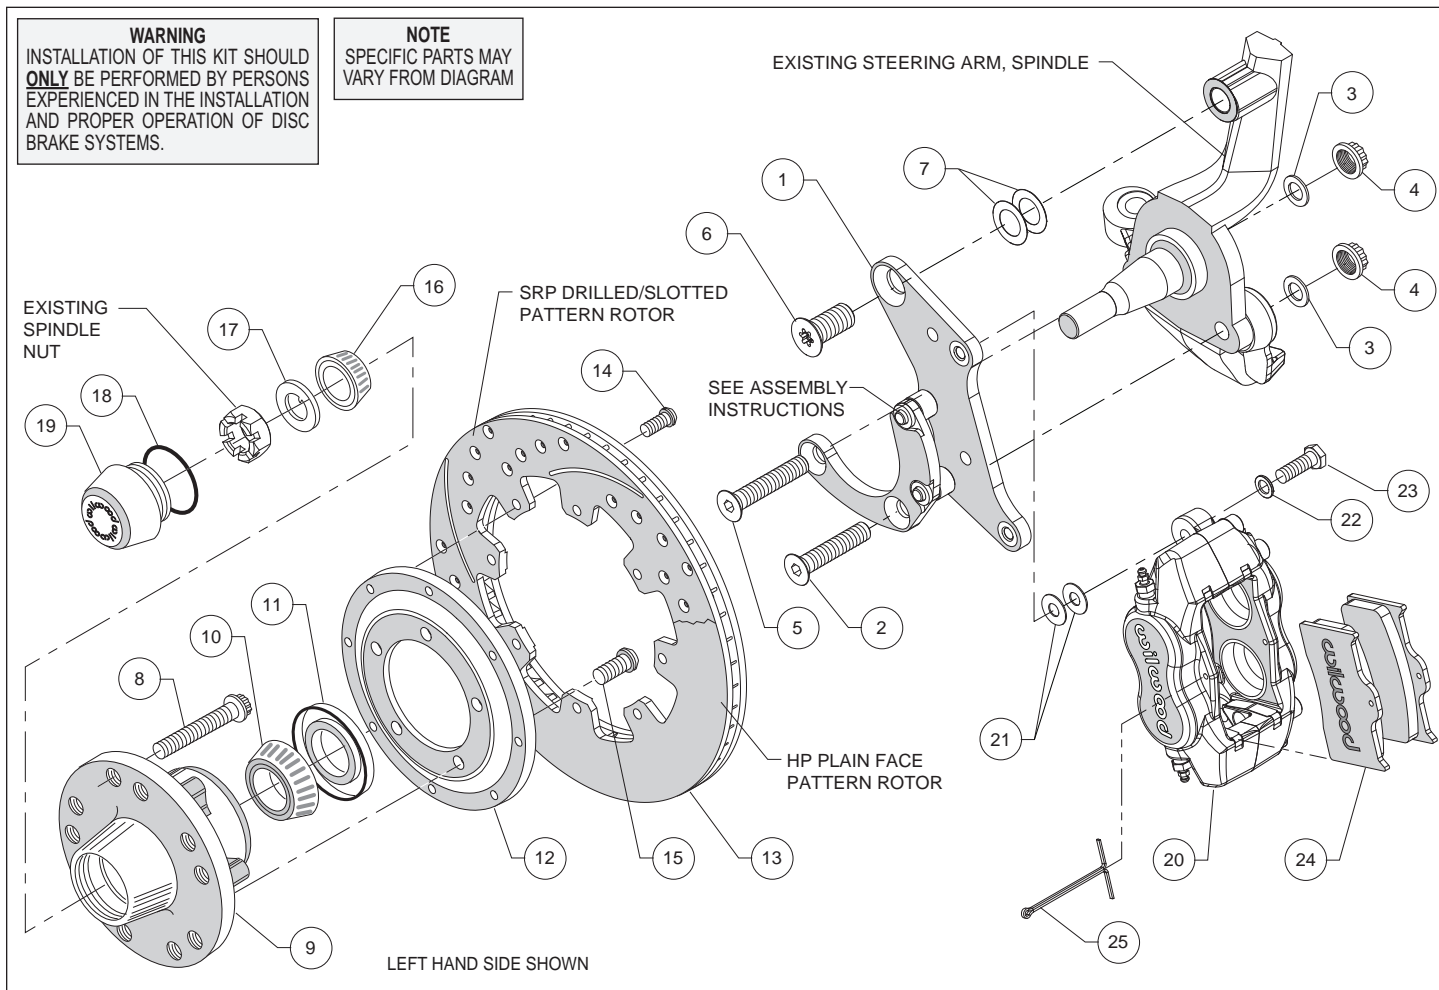
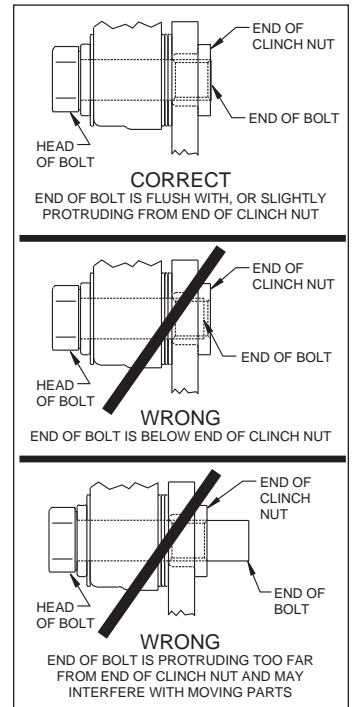

Figure 1. Typical Installation Configuration
Figure 3. Clinch Nut Engagement Diagram
Assembly Instructions (numbers in parenthesis refer to the parts list and Figure 1 on the preceding pages): **CAUTION:** All mounting bolts must fully engage clinch nuts. Be sure to check that all bolts are either flush or protruding through flanged side of clinch nut after shimming, Figure 3.
- The caliper mounting bracket (1) has been assembled at the factory for alignment purposes. Loosen the two bolts that secure the brackets together so that the bolts are hand tight only, this will enable the bracket assembly to be adjusted to accommodate various spindle tolerances during assembly. Align bracket with the two lower holes on the spindle face and attach using bolts (2 and 5), washers (3), and secure using lock nuts (4), as shown in Figure 1 and Photo 1. Install bolt (6) through top of bracket while placing shims (7) between bracket and spindle, Figure 1. Initially place two .010" thick shims (7) on the top bolt between the bracket and upright, Figure 1. Temporarily tighten the mounting bolts. Ensure that the flanged heads of the clinch nuts in the bracket are facing outboard, Photo 1. **NOTE:** The bracket must fit squarely against the mounting points on the spindle and be parallel with the mounting face. If not, add or subtract shims (7) on the top bolt between the bracket and spindle. Inspect for interference from casting irregularities, machining ridges, burrs, etc. Torque lock nuts (4) to 65 ft-lb. Remove the upper bolt, apply red *Loctite*® 271 to threads, and torque to 140 ft-lb. Remove one at a time the bolts that secure the bracket assembly to each other, apply red *Loctite*® 271 to the threads and torque to 40 ft-lb.
- Orient the rotor (13) and the rotor adapter (12) as shown in Figure 1 and Photo 4. Attach the rotor to the adapter using bolts (14). Using an alternating sequence, apply red *Loctite*® 271 to the threads, and torque to 25 ft-lb.
- Mount the adapter/rotor assembly (12/13) to the hub (9) using bolts (15), as shown in Figure 1 and Photo 5. Using an alternating sequence, apply red *Loctite*® 271 to the threads, and torque to 45 ft-lb.
- Pack the small outer bearing cone (16) with high temperature disc brake bearing grease and install into hub (9). Slide the hub/rotor assembly onto the spindle. Secure using spindle washer (17) and OEM spindle nut, Photo 6. Adjust bearings per OEM specifications. Install saved OEM nut lock (if any) and a new cotter pin (not supplied).
- Screw dust cap (19) into hub (9), Photo 7. Friction created by the o-ring (18) on the dust cap keeps it from unscrewing. **NOTE:** The O.D. of the existing OEM spindle washer may be larger than the I.D. of the dust cap not allowing it to seat against the hub face. Therefore, use the spindle washer (17) supplied with the kit instead of the OEM washer.
- NOTE:** Please reference the caution statement at the beginning of the assembly instructions. Mount the caliper (20) onto the caliper mounting bracket (1) using bolts (23) and washers (22), as shown in Figure 1. Initially place two .035" thick shims (21) on each bolt between the caliper and the bracket, Photo 8. Temporarily tighten the mounting bolts and view the rotor (13) through the top opening of the caliper. The rotor should be centered in the caliper, Photo 9. If not, adjust by adding or subtracting shims between the bracket and the caliper. Always use the same amount of shims on each of the two mounting bolts. **NOTE:** The end of each bolt must be flush with or slightly protruding from the head of the clinch nut, as shown in Figure 3. If necessary place spare shims between washer (22) and caliper mounting ear to achieve the proper clinch nut engagement. Once the caliper alignment and clinch nut engagement are correct, remove the bolts one at a time, apply red *Loctite*® 271 to bolt threads, and torque to 40 ft-lb.
- Install the disc brake pads (24) into the caliper, with the friction material facing the rotor (13), and secure in place using cotter pin (25), Photo 10.